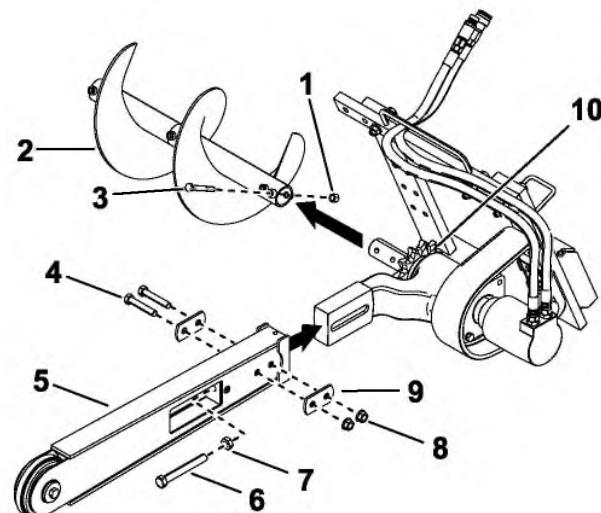

Figure 3
3. Remove the bolt and nut securing the spoils auger and remove the auger (Figure 3).
4. Remove the 2 bolts (5/8 x 3-1/2 inches), 2 nuts (5/8 inch), and 2 double washers from the sides of the boom (Figure 3).
5. Loosen the adjusting bolt and jam nut (Figure 3).